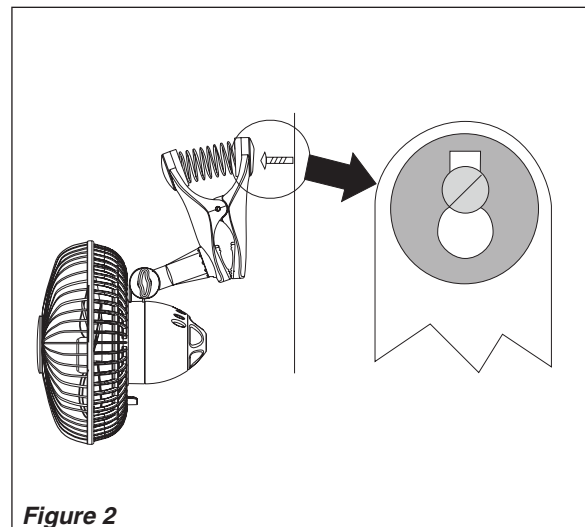

Figure 2
2. **WALLMOUNT USE:** Install a Screw (#8 x 3/4" Wood Screw or equivalent - not supplied) in the wall and hang the Clip Assembly on the Screw. (Figure 2)